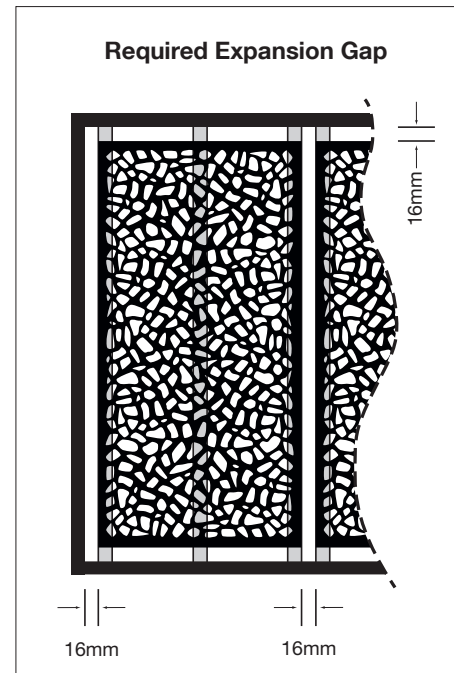

Fig 3
3. Make sure you have allowed at least **16mm clearance at the top and sides of each screen** for expansion during hot weather as per Fig. 3. In cold weather the screen will contract and the 12mm holes will allow for this movement.